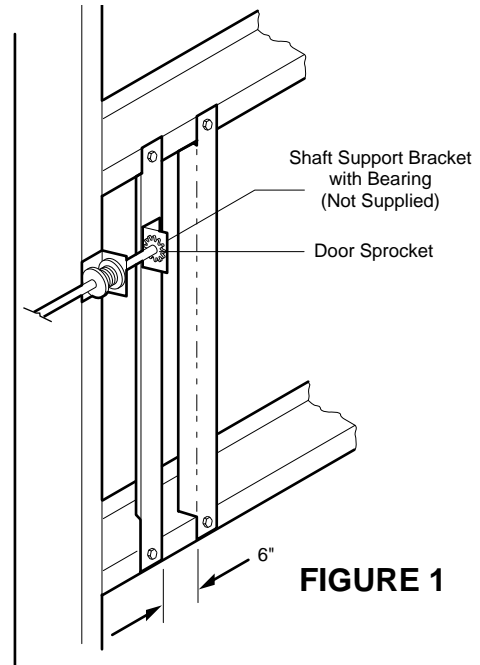
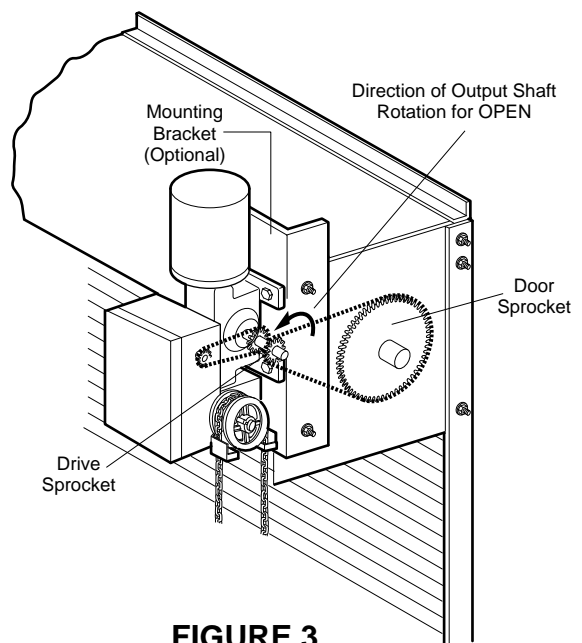

FIGURE 1
FIGURE 3
2. For metal buildings, fasten 2"x2"x3/16" (or larger) angle iron frames to the building purlins. Retain 2-1/4" between frames. See Figure 1.
NOTE 2: For standard rolling steel doors, install operator as shown in Figure 3. (If mounting to a steel building, make an angle iron mounting frame as shown in Figure 1.)
14. Apply power to the operator. Press OPEN push button and observe direction of output shaft rotation. See Figure 3, page 3. Press the STOP button.